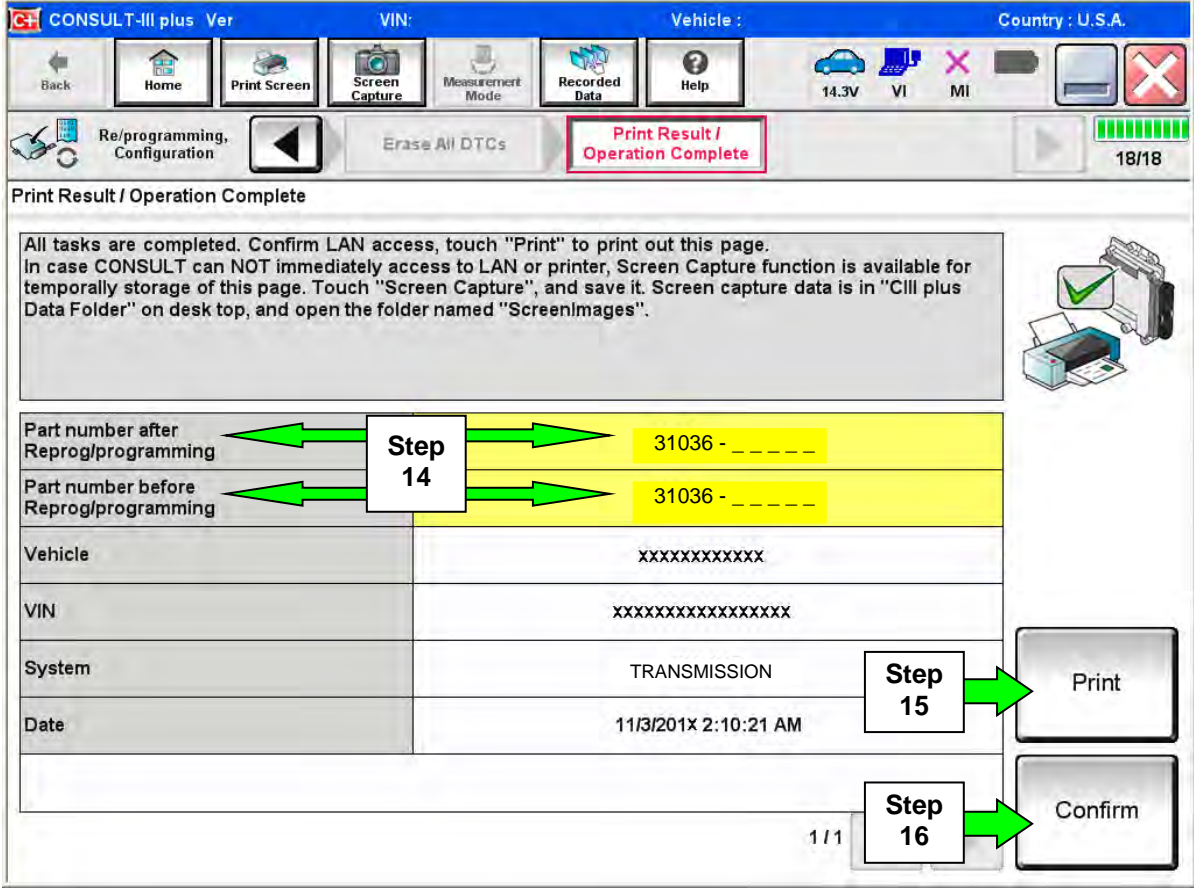

Figure 7B
- 13. When the entire reprogramming process is complete, the screen in Figure 7B will display.
- 15. Print a copy of this screen (Figure 7B) and attach it to the repair order for warranty documentation.